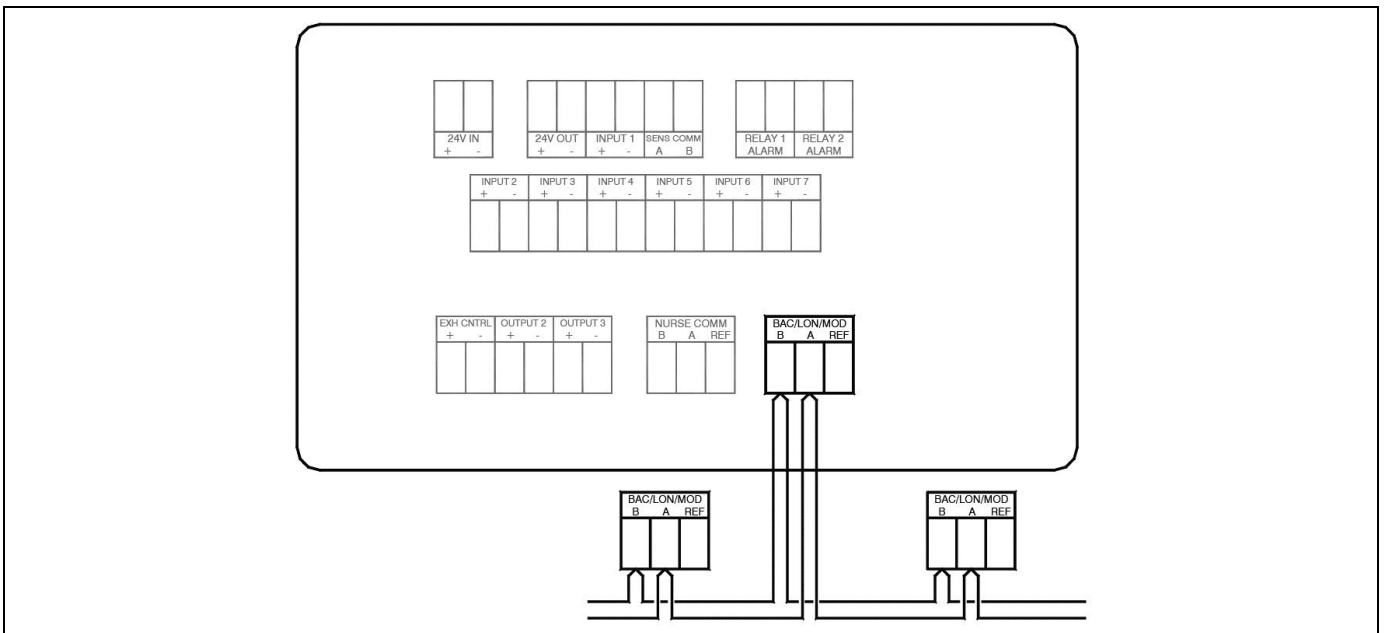

Figure 22. Optional LONworks Communications Wiring to Model RPM20-LON
- Wire the pressure sensor per Figure 8 to Figure 22. Run sensor cable to the room pressure monitor 6" x 4" electrical rough-in box.
- Refer to the wiring diagrams, Figure 8 to Figure 22 for proper wiring installation.